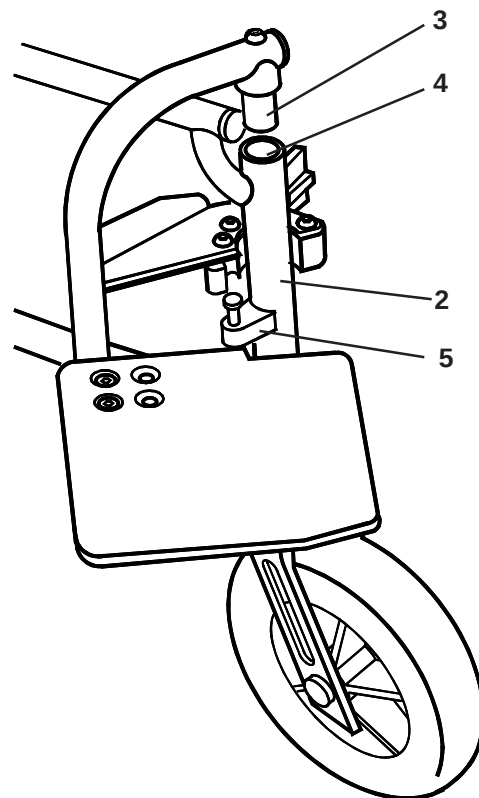

Fig. 17
To replace the footrest (Fig. 17), place the swing-away pivot saddle (3) into the receiver (4) on the frame (2) with the footrest facing outward from the frame. Rotate the footrest inward until it locks into place on the locking stud (5).